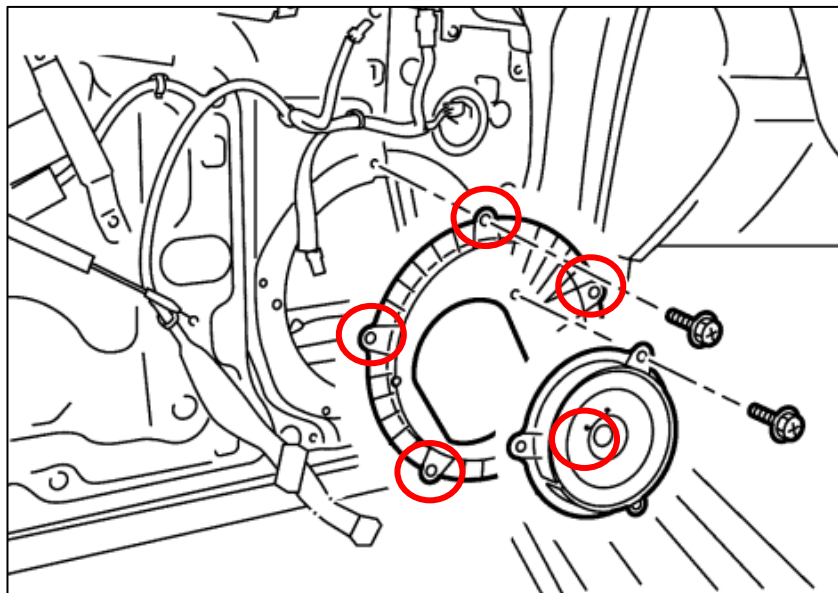

Figure 53
12. Disconnect the (5) five 10mm Bolts securing the Speaker to the Door. *Figure 53.*